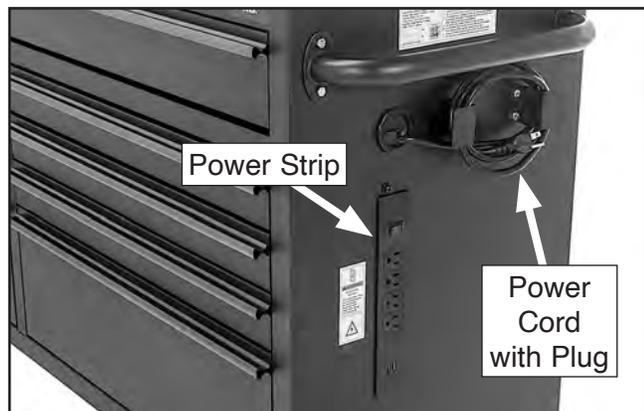

Figure 6. Power strip and cord location.
The T34623 features a pre-installed power strip with (4) 5-15 outlets and (2) USB ports, conveniently located for easy access (see **Figure 6**). The included power strip has the following ratings: